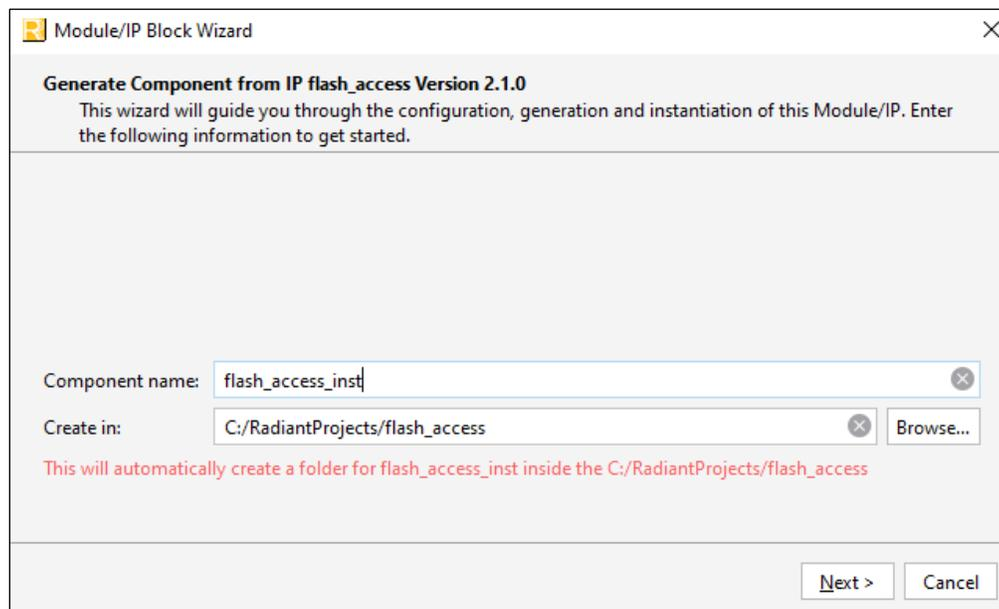

Figure 6.1. Module/IP Block Wizard
2. In the **IP Catalog** tab, double-click **Flash Access for MachXO5-NX** under **IP, Architecture_Modules** category. The **Module/IP Block Wizard** opens, as shown in Figure 6.1. Enter values in the **Component name** and the **Create in** fields and click **Next**.
- Click the **Finish** button. All the generated files are placed under the directory paths in the **Create in** and the **Component name** fields shown in Figure 6.1.